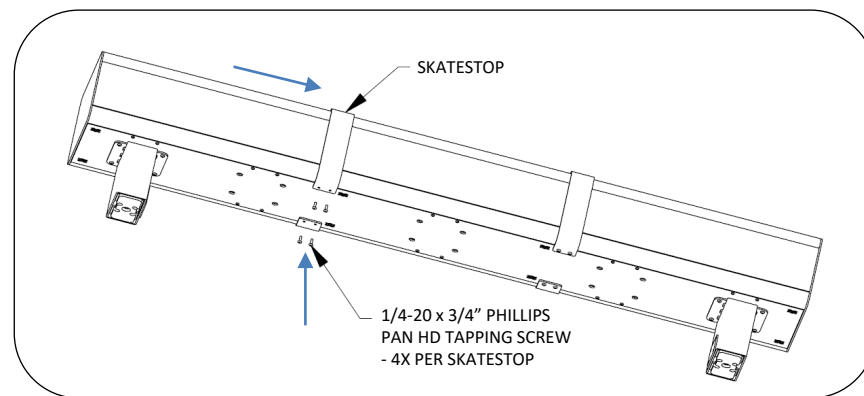

Fig. 5 – attach skatestops
6. Attach skatestops, if specified. See Fig. 5. Slide skatestops into position from the ends of the bench. Skatestops will flex enough to slide past support columns. Tighten until snug. Do not overtighten.